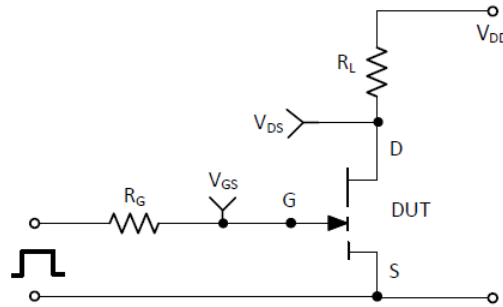
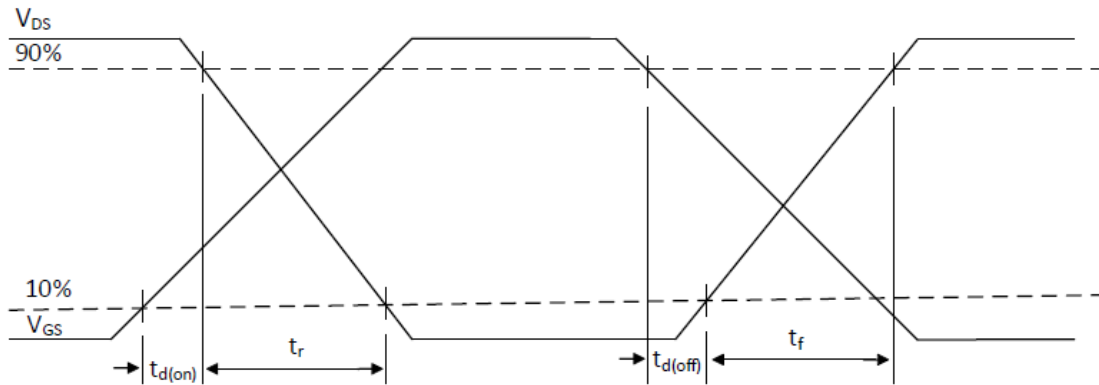

Figure 16: switching time test circuit
Figure 17: switching time waveforms
(5) See Figure 16 for timing test circuit diagram and Figure 17 for definition waveforms